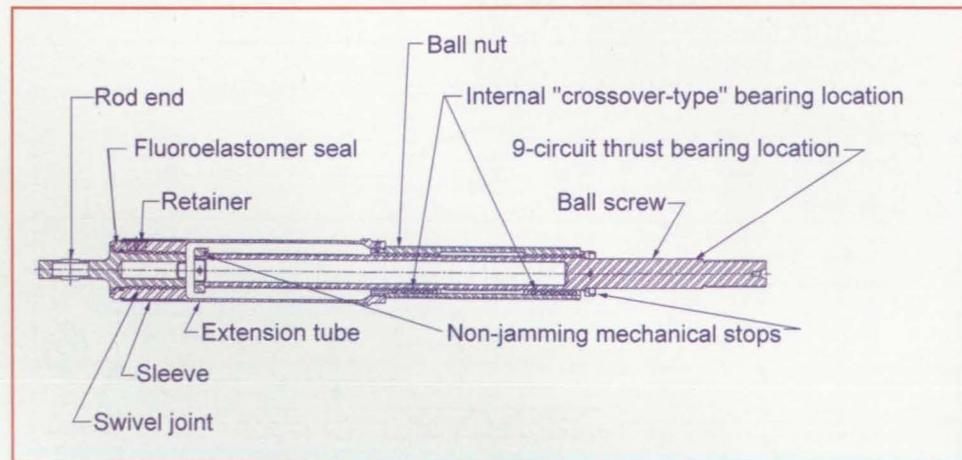

Figure 3. Cross-sectional view of the X-33 FCAS ball screw assembly.
stops at each end of the stroke (see Figure 3).
Because of the potential need to rotate the ball nut using the second drive system, it was necessary to provide a swivel joint between the ball-nut extension tube and the rod-end attachment to the spacecraft. For this purpose, nine circuits of bearing balls are inserted through retainers into bearing raceways ground into the extension tube's inner diameter and rod-end outer diameter. A stainless steel sleeve covering all retainers and a fluoroelastomer seal at the rotating interface keep contaminants out of the assembly. The ball-groove geometry, ball size, and ball quantity used in the swivel joint were "balanced" with that of the ball screw for equal load capacity and endurance life (see Figure 3).
end. What resulted was the development of a nine-circuit thrust bearing that significantly reduced deflections down to an acceptable level (see Figure 3).
of the swivel joint body (under the bearing races); (3) "bottle" boring of the ball nut body between ball circuits; and (4) "bottle" boring of the extension tube up to the swivel joint ball races (see Figure 3).